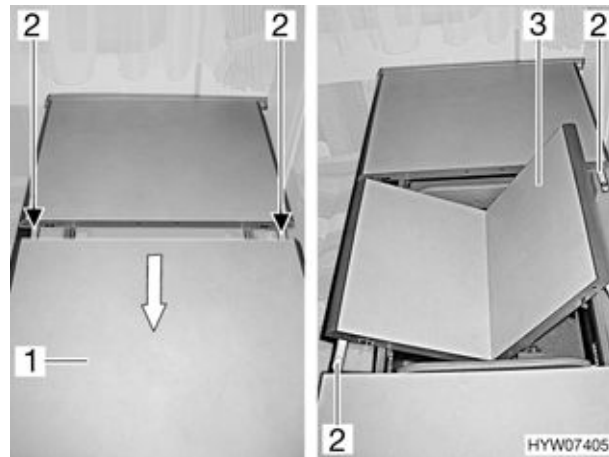

Fig. 63 Extend suspension table
- Undo the safety clips (Fig. 63,2) at the bottom of the table-top.
- Slightly lift the front of the table-top (Fig. 63,1) and pull in the direction indicated as far as it will go.
- Fold out the inserted table-top extension (Fig. 63,3).
- Slide the table-tops together and secure them with the safety clips (Fig. 63,2) on the bottom side of the table-top to prevent them from separating.